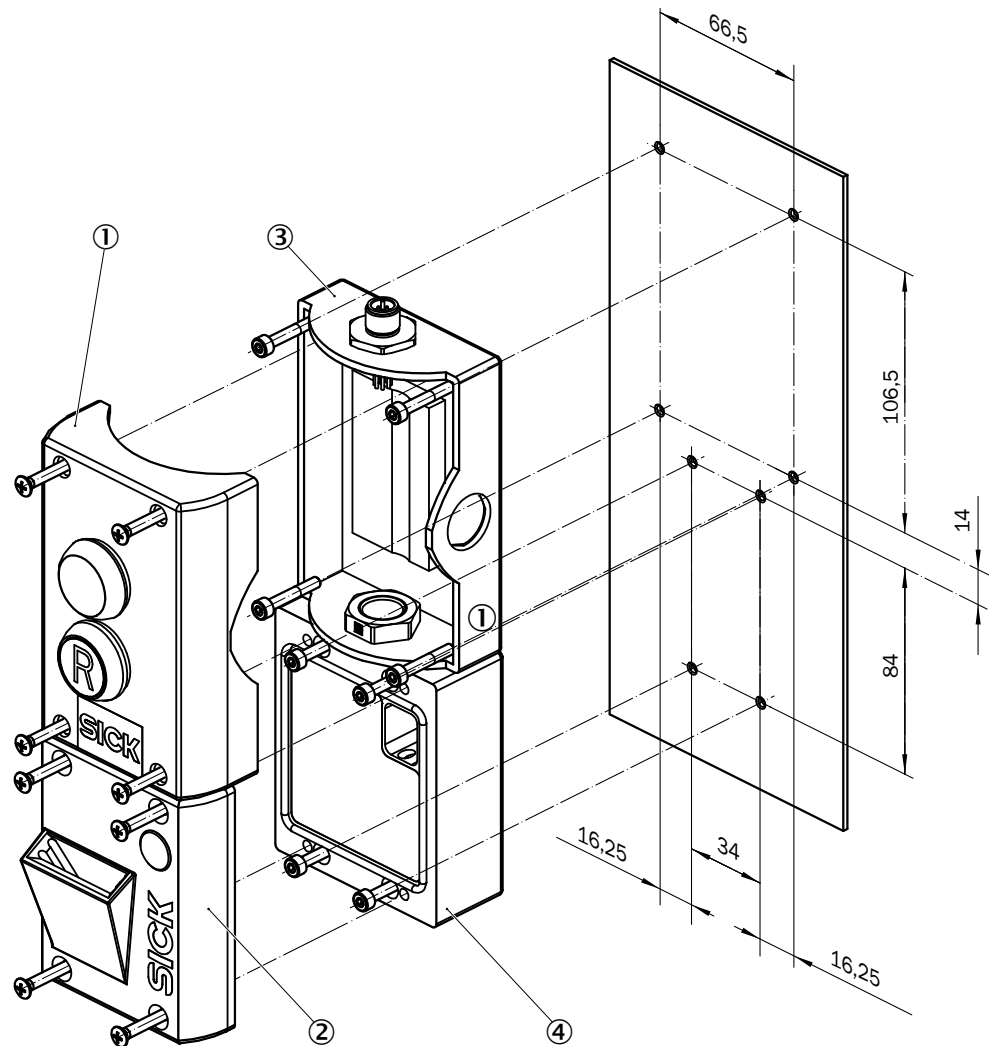

Figure 14: Mounting sketch for the entry module (mm)
1. Drill the holes for the mounting (see figure 14).
2. Unscrew the top cover ① (4x M4 screws).
3. Carefully remove the top cover ①.
4. Unscrew the bottom cover ② (4x M4 screws).
5. Carefully remove the bottom cover ②. Do not pull off the cables.
6. Mount the back of the housing (③, ④) (8x M4 screws).
7. Mount the top cover ① (4x M4 screws).
8. Carefully reattach the bottom cover ② with the key holder. Place the cables in the designated slot without pinching them.
9. Mount the bottom cover ② (4x M4 screws).